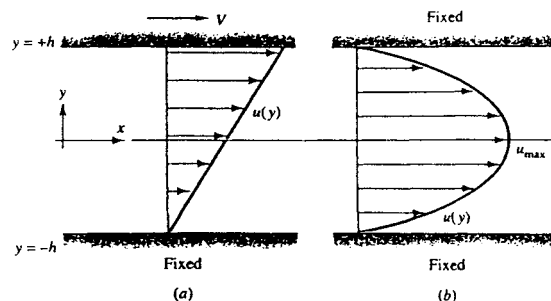

Fig. 4.16
**4.79** Study the combined effect of the two viscous flows in Fig. 4.16. That is, find  $u(y)$  when the upper plate moves at speed  $V$  and there is also a constant pressure gradient  $(dp/dx)$ . Is superposition possible? If so, explain why. Plot representative velocity profiles for (a) zero, (b) positive, and (c) negative pressure gradients for the same upper-wall speed  $V$ .